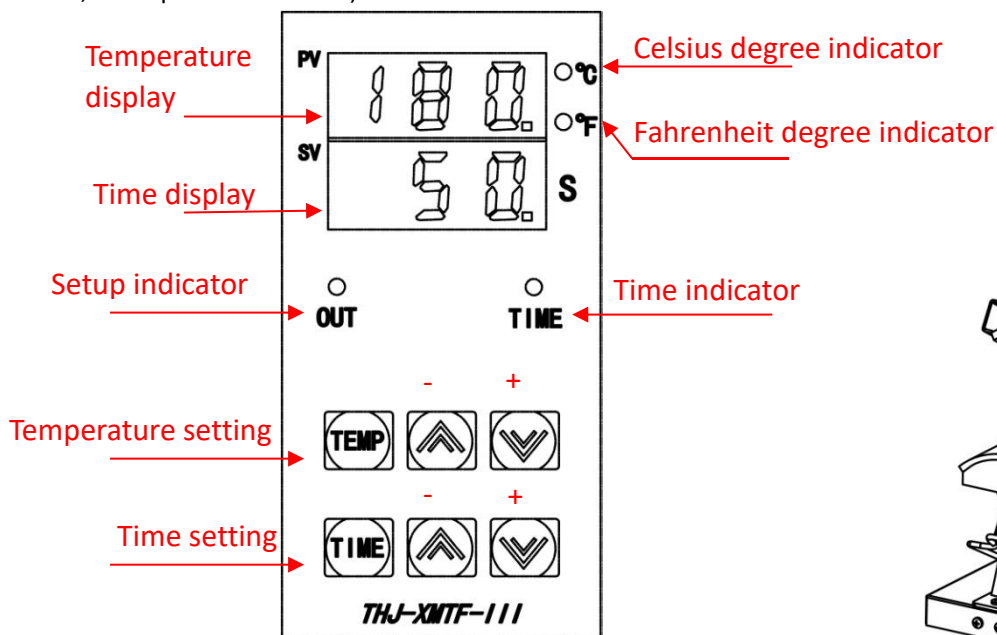

Figure 3
b. Fahrenheit degree selection: as shown in Figure 3, the “Fahrenheit degree indicator” indicates whether the temperature is displayed in Fahrenheit degree. Since there are a variety of ways to switching between Fahrenheit degree and Celsius degree, specific switching methods are not introduced in this user manual. If there is any need for temperature unit swathing, please contact the distributor or the manufacturer or use the formula below: [Fahrenheit degree= 32 + Celsius degree × 1.8; Celsius degree= (Fahrenheit degree - 32) ÷ 1.8]